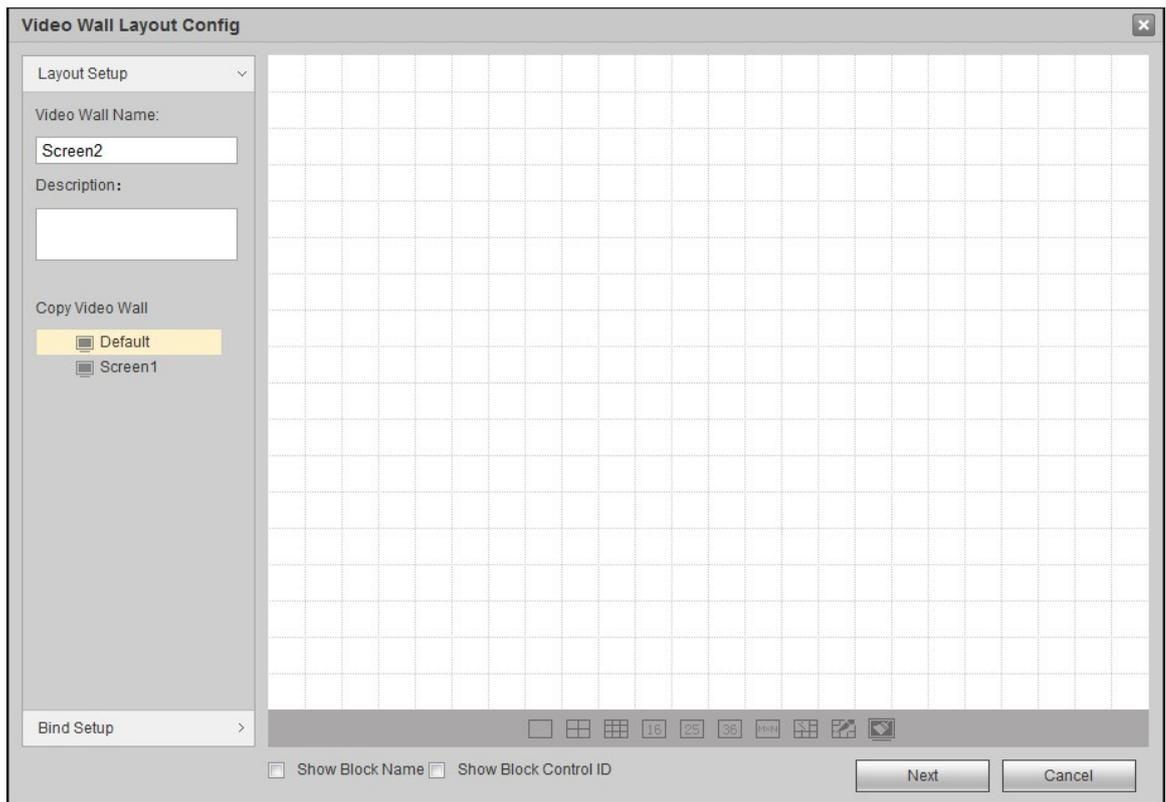

Figure 3-5
**Step 2** Click "Add Video Wall". The system displays "Video Wall Layout Config" interface, as shown in Figure 3-5.